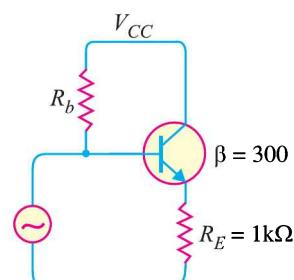

Fig. 13.31
7. In Fig. 13.31, if input and output impedances without feedback are $2 \text{ M}\Omega$ and 500Ω respectively, find their values after negative voltage feedback. [302M Ω ; 1.6 Ω]